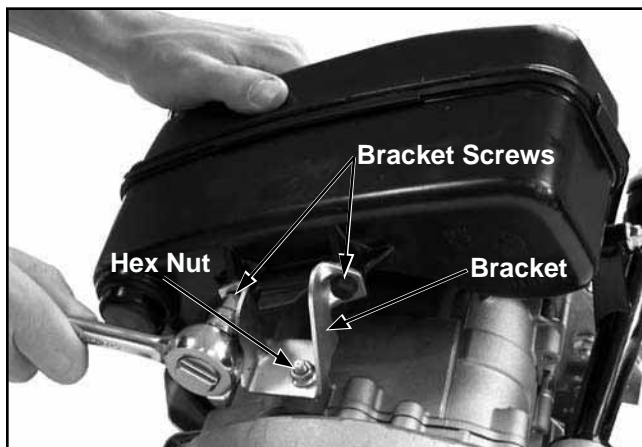

Figure 8-23. Detaching Fuel Tank Bracket.
2. Detach the fuel tank from the crankcase bracket by removing the two hex flange screws. See Figure 8-23
NOTE: Disassembly does not require the fuel tank bracket be removed from the bottom of the tank. If removal is to be performed, unscrew the two hex bracket screws. See Figure 8-23.